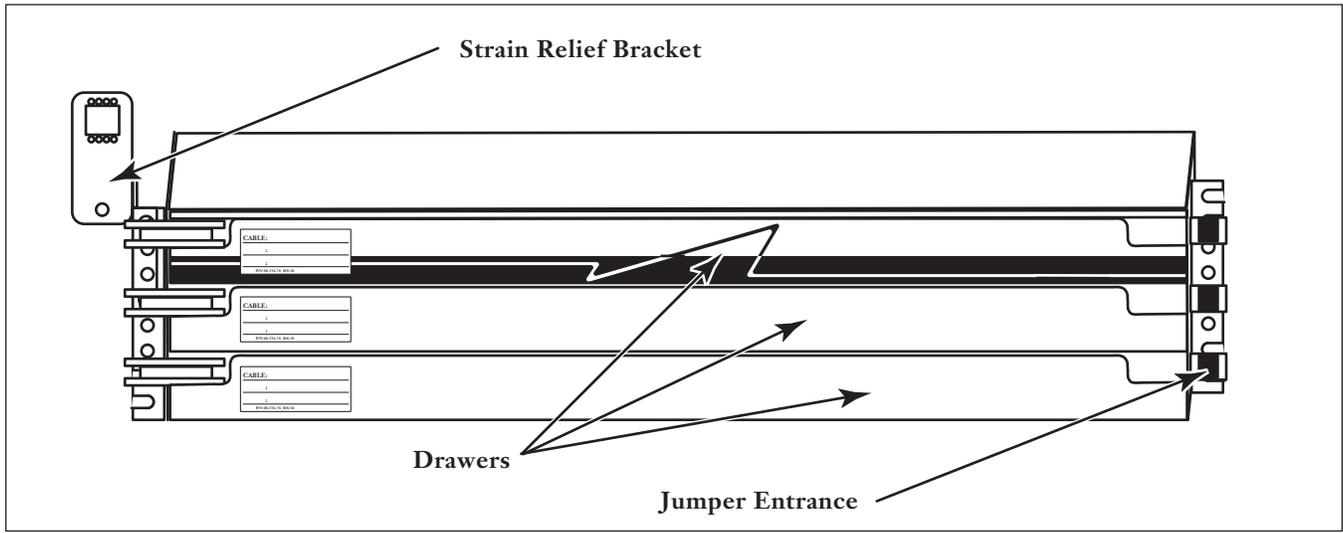

Figure 2
2.1 The HDF consists of a utility rack that holds up to 17 HDF shelves (Figure 2). Each shelf holds three drawers. Each drawer will accommodate up to 24 connectors (including in-line or built-in attenuators) and a fusion or mechanical splice tray.